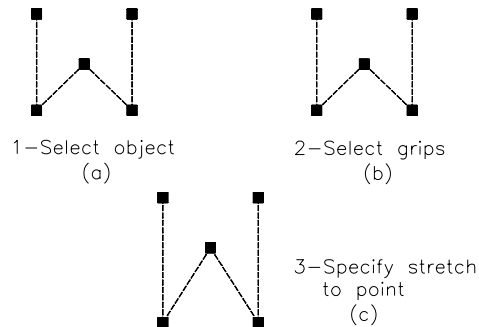

Figure 6-7 Using the **Stretch** mode to stretch the lines
1. Use the **PLINE** command to draw a W-shaped figure shown in Figure 6-7(a).
2. Select the object that you want to stretch [Figure 6-7(a)]. When you select the object, grips will be displayed at the endpoints of each object. A polyline has two grip points. If you use the **LINE** command to draw the object, AutoCAD will display three grips for each object.
3. Hold the SHIFT key down, and select the grips that you want to stretch [grips on the lower endpoints of the two vertical lines in Figure 6-7(b)]. The selected grips will become hot grips and the color will change from blue to red.
4. Select one of the selected (hot grip) grips, and specify a point to which you want to stretch the line [Figure 6-7(c)]. When you select a grip, the following prompt is displayed in the Command prompt area.